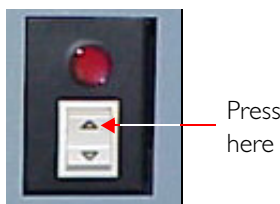

Figure 40. **Y-Axis Piston Control Button - ON**
2. Standing at the rear of the printer, press the *up* arrow  on the piston control switch (located above the pneumatic control panel) - see Figure 40.